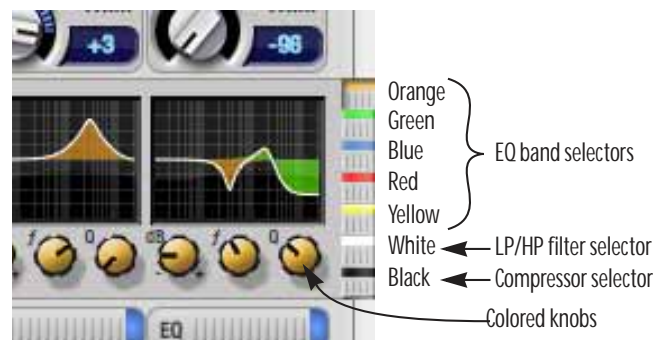

Figure 10-4: The EQ/Dynamics selectors.
Click the selector (Figure 10-4) for the desired EQ band, low-pass (LP) filter, high pass (HP) filter or compressor to view it across all channels.